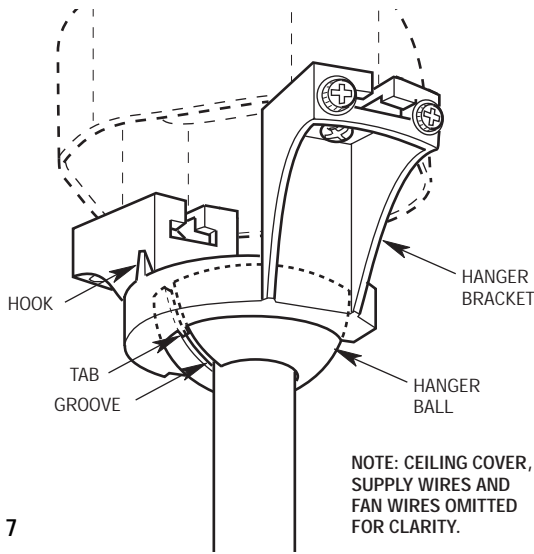
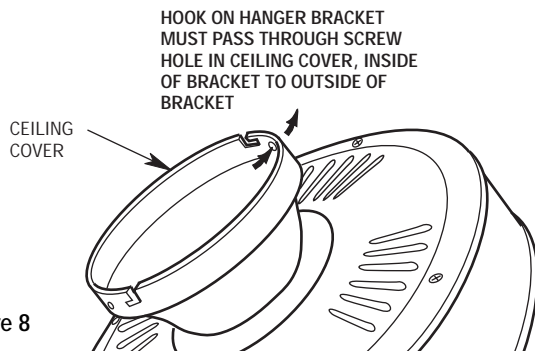

Figure 7
Figure 8
1. Carefully lift the fan assembly and seat the hanger ball in the hanger bracket (Figure 7). The tab on the hanger bracket must seat in the groove in the hanger ball.
1. Carefully lift the fan assembly up to the hanger bracket. Pass the hook on the hanger bracket (Figure 7) through one of the screw holes (not the slots) in the ceiling cover (Figure 8). The hook must pass from the inside of the ceiling cover to the outside. The hook will hold the fan assembly while connecting the wiring.